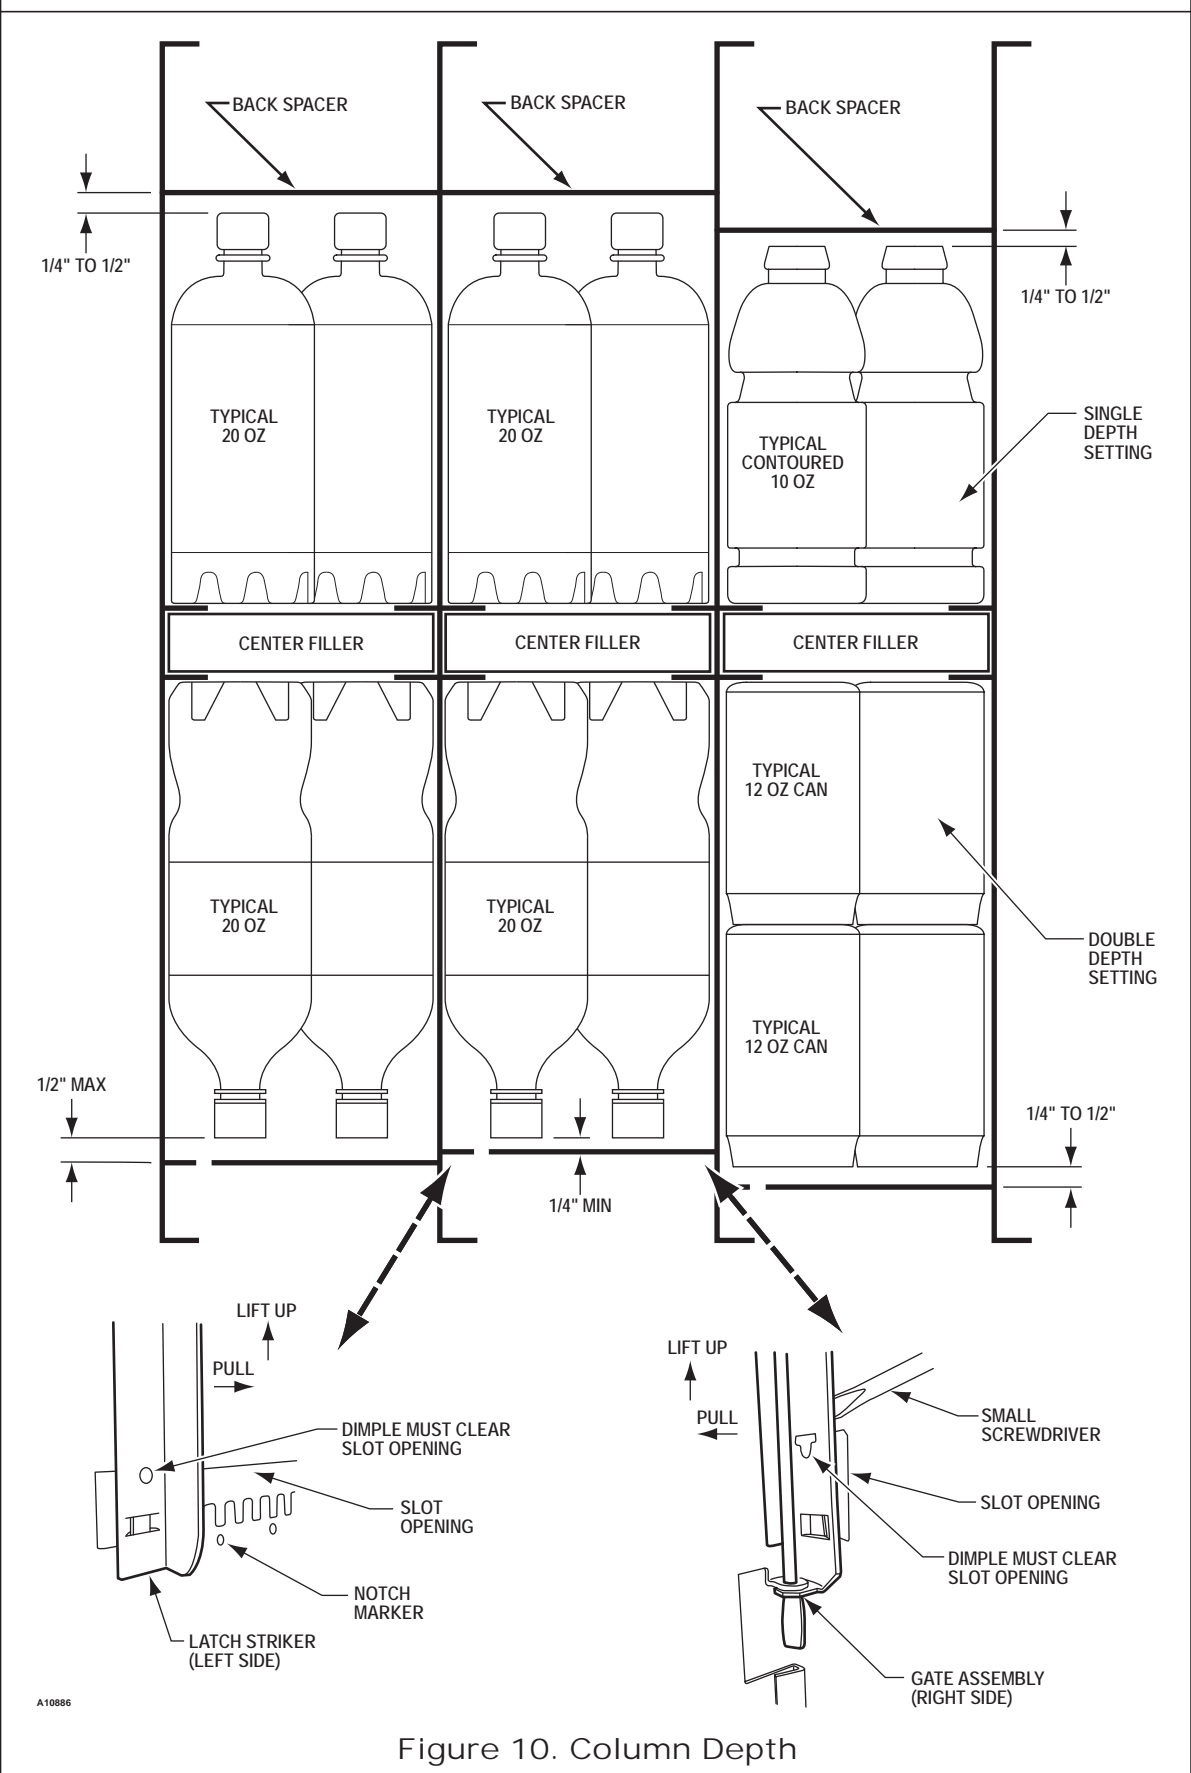

Figure 10. Column Depth
3. Product container bottoms must face towards the center of the rack as shown. Refer to Figure 10.
8. Add first (5) rows of products in each column to check product spacing. Products should not have more than 1/4 to 1/2 inches of free space at the front or back of the columns as shown on Figure 10. Adjust the back spacer, latch striker or gate assembly to achieve the required dimension. The Vend Rack has been factory set for most 20-oz water bottles or 12 oz cans. If vending 16.9 oz water bottles, then remove Filler (4211816) from the back of the inner door and install it in the Vend Rack. Follow instructions on the Filler decal.
Lift the back spacer and reposition it in the adjustment slots. Use notch markers as reference points to align it vertically. See Figure 10.
Pull and lift up on the lower end of the gate assembly (or latch striker). Use a small screwdriver as a wedge to gently pry the dimple away from the slot opening. See Figure 10 on page 1. Reposition them in the adjustment slots. Use notch markers as reference points to align it vertically.